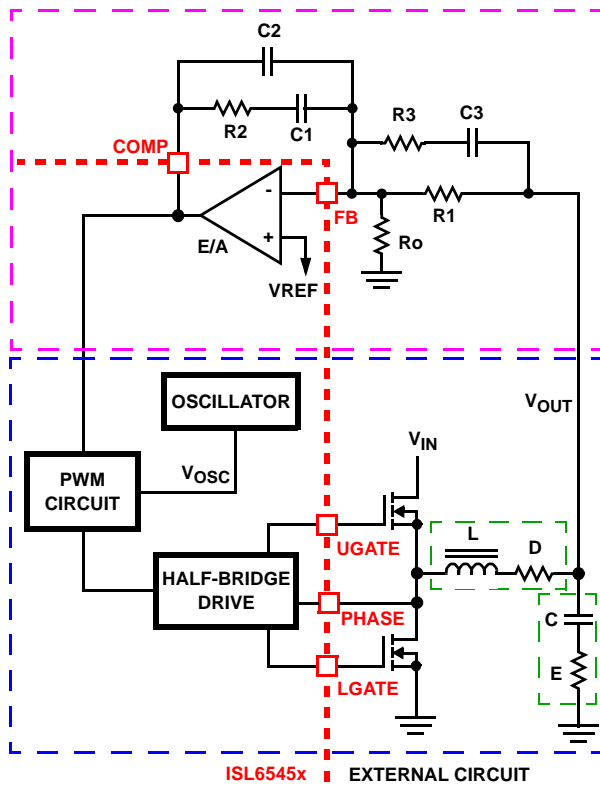

FIGURE 9. VOLTAGE-MODE BUCK CONVERTER COMPENSATION DESIGN
This section highlights the design consideration for a voltage-mode controller requiring external compensation. To address a broad range of applications, a type-3 feedback network is recommended, as shown in the top part of Figure 9.
Figure 9 also highlights the voltage-mode control loop for a synchronous-rectified buck converter, applicable to the ISL6545x circuit. The output voltage (V_{OUT}) is regulated to the reference voltage, V_{REF} . The error amplifier output (COMP pin voltage) is compared with the oscillator (OSC) modified sawtooth wave to provide a pulse-width modulated wave with an amplitude of V_{IN} at the PHASE node. The PWM wave is smoothed by the output filter (L and C). The output filter capacitor bank's equivalent series resistance is represented by the series resistor E.
The compensation network consists of the error amplifier (internal to the ISL6545x) and the external R1-R3, C1-C3 components. The goal of the compensation network is to provide a closed loop transfer function with high 0dB crossing frequency (F_0 ; typically 0.1 to 0.3 of F_{SW}) and adequate phase margin (better than 45°). Phase margin is the difference between the closed loop phase at F_{0dB} and 180°. The equations that follow relate the compensation network's poles, zeros and gain to the components (R1, R2, R3, C1, C2, and C3) in Figure 9. Use the following guidelines for locating the poles and zeros of the compensation network:
1. Select a value for R1 (1kΩ to 5kΩ, typically). Calculate value for R2 for desired converter bandwidth (F_0). If setting the output voltage via an offset resistor connected to the FB pin, R_o in Figure 9, the design procedure can be followed as presented.